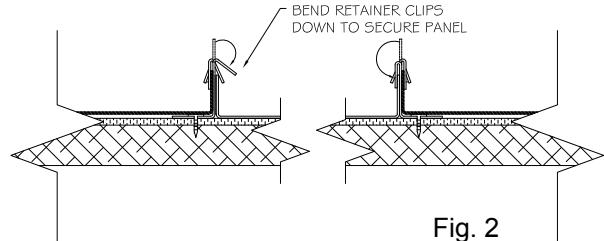

Fig. 2
4. Bend the retainer clip tabs down to lock in the panel —See Fig 2